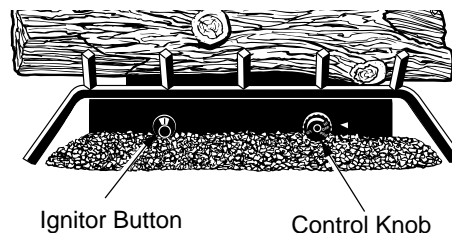

Figure 41 - Control Knob and Ignitor Button Location
4. Wait five (5) minutes to clear out any gas. Then smell for gas, including near the floor. If you smell gas, STOP! Follow "B" in the safety information, page 20, column 2. If you don't smell gas, go to the next step.
5. Turn control knob counterclockwise  to the PILOT position. Press in control knob for five (5) seconds (see Figure 41).
**Note:** If pilot goes out, repeat steps 3 through 7. This heater has a safety interlock system. Wait one (1) minute for system to reset before lighting pilot again.